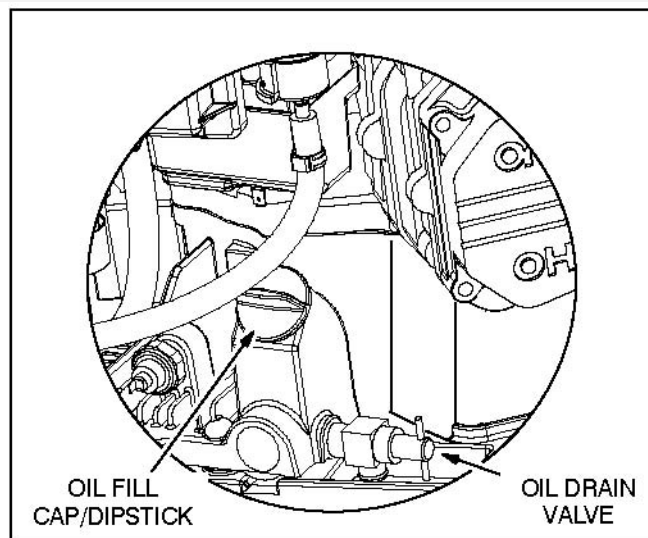

FIGURE 9. OIL FILL/DIPSTICK AND DRAIN VALVE
1. Unscrew the oil fill cap and wipe oil off the dipstick (Figure 9). Screw the cap back on, remove it and check the oil level on the dip stick.
2. Remove the oil fill cap, open the oil drain valve (Figure 9), let all oil drain from the engine and then close the drain valve.